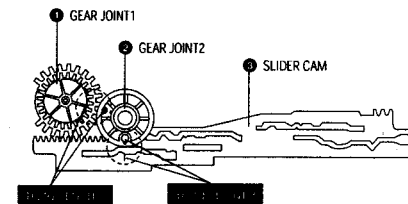

Fig. 2-20 Gear Joint 1,2 Assembly
- 1) Be sure to align dot mark of Gear Joint 1 ❶ with dot mark of Gear Joint 2 ❷ as shown Fig 2-20. (Refer to Timing point1)
- 2) Confirm the Timing Point 2 of the Gear Joint 2 ❷ and Slider Cam ❸.